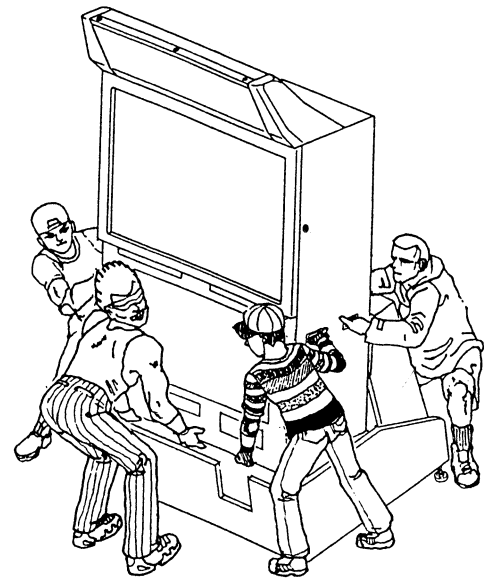

Fig. 4.1c
- ⑤ In order to prevent accidents during assembly work, have all of the leg adjusters of the PTV Base make contact with the surfaces to secure the PTV Base.
- ⑥ Mount the assembled PTV on the PTV Base. After mounting the PTV, move it to the rear part of the PTV Base. When performing this work, be sure to use 4 or more persons.(Fig. 4.1c)